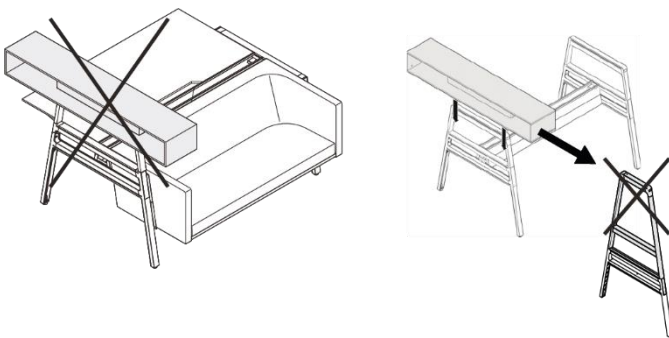

Figure 22 Shelf attachment, impermissible attachment
- In the upper section of a high arch attachment (see Figure 22, right).
- Next to a sofa (see Figure 22, left).